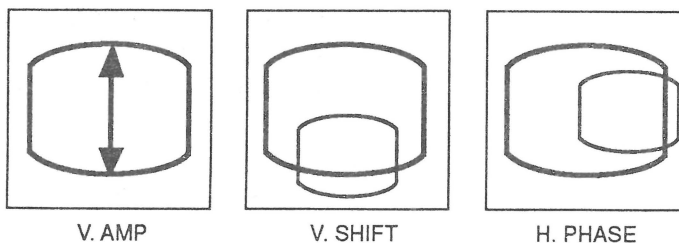

FIGURE 6
2. Using the insulated plastic screwdriver, turn the height, or vertical amplitude (V.AMP) control (**Figure 6**) until the raster is 276 mm high.